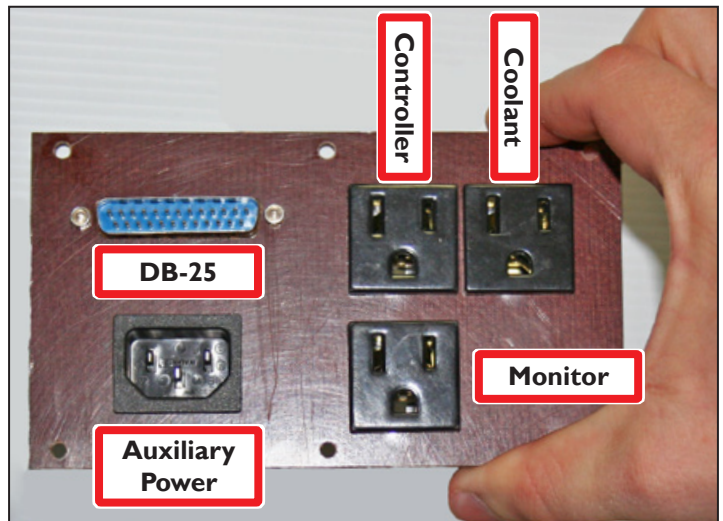

Figure 13
9. Connect Coolant Pump's 3-prong plug into outlet shown in Figure 13.